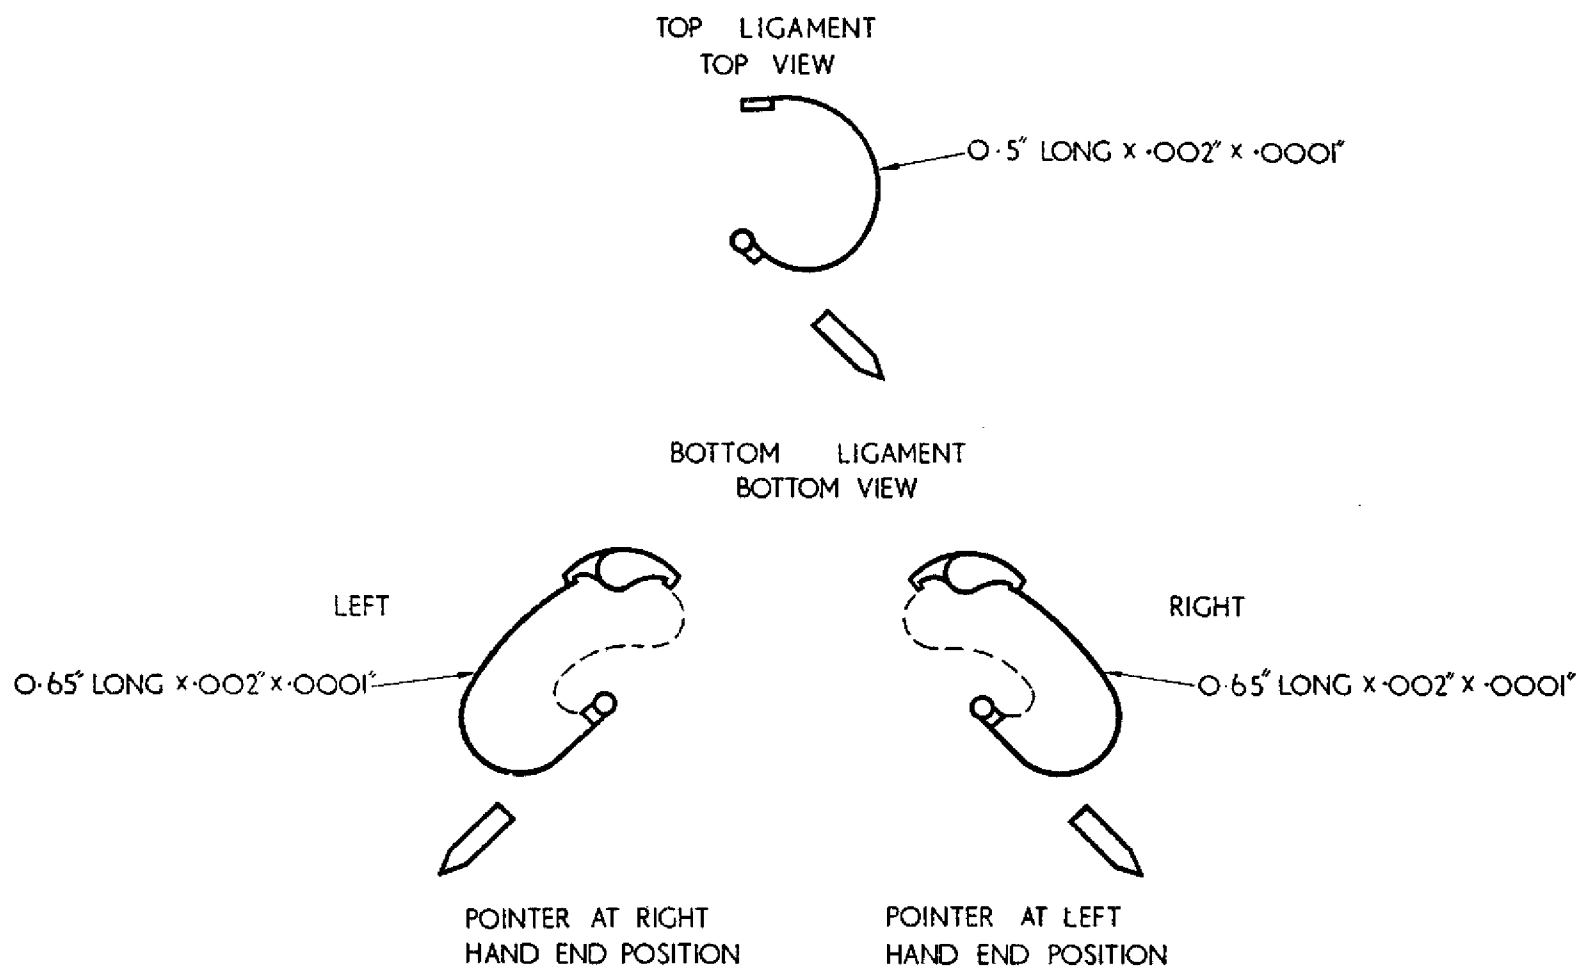
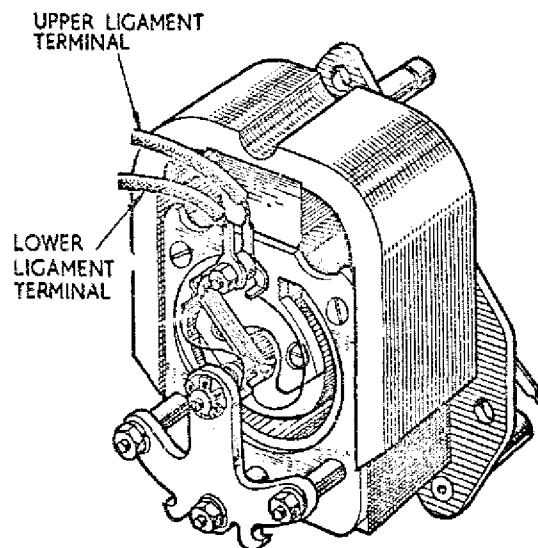

Fig. 3 Ligaments
Fig. 4 Bottom ligament terminals
- (2) Connect terminal leads to appropriate points but do not fit sub-base (37) to base at this stage of assembly.
- (3) Check that the moving element is evenly centred and turn jewel screws clockwise in small increments of approximately 1/10th of a turn until pointer flop (the movement of the pointer due to the pivots being able to move laterally between the jewels) is just eliminated. Back off jewel screws by 1/10th to 1/8th turn until a slight pointer flop is just perceptible.
- (4) Solder free ends of leads, of which a position record was kept at disassembly, to their respective bottom-end ligament terminals (Fig.4).
NOTE: Before fitting a replacement movement complete check the ligament shapes (Fig.3) for correct pull-off and the polarity of the magnet. The following pointer movement should occur when a current not exceeding 5mA is applied to the connections of the moving coils (See Fig.4).